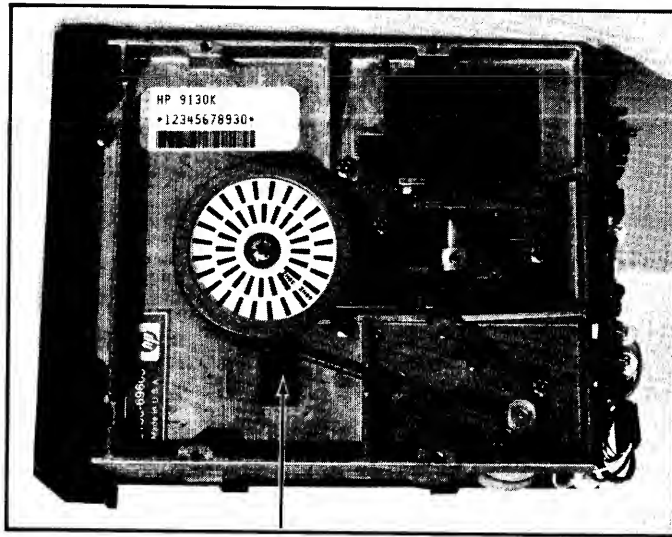

Figure 5-7. Index Detector Retaining Screw
- b. Place drive on its side with bottom facing you as in figure 5-7.
- i. Loosen the index detector retaining screw (Figure 5-7) and move the detector until the INDEX to DATA burst time is approximately $400 \mu\text{S} \pm 300 \mu\text{S}$ for side 0.